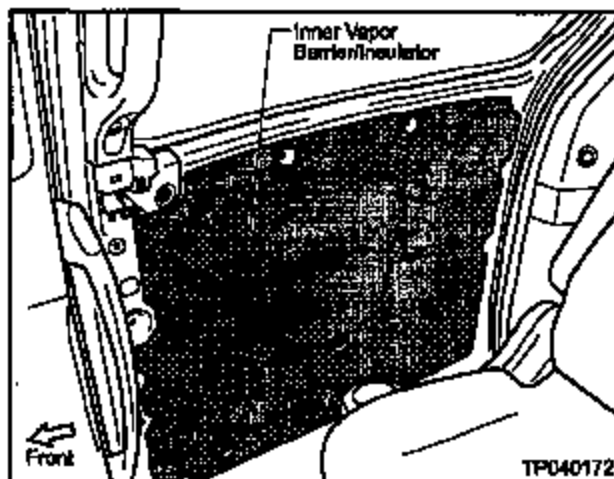

Figure 5
8. Roll the Inner Vapor Barrier/Insulator back (see Figure 5) as follows: